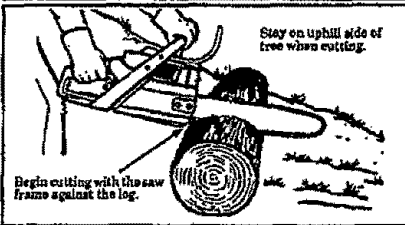

Figure 16
- Begin cutting with the saw frame against the log. Figure 16.